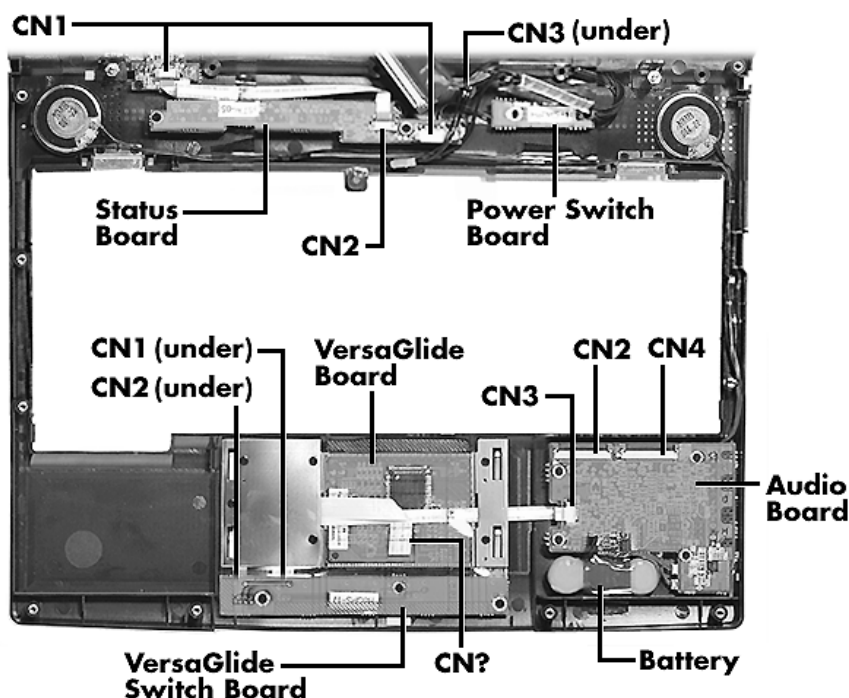

Figure 4-9 Top Cover Subassembly
13. Lift off and turn over the Top Cover Assembly. Figure 4-9 show the various components on the under side of the top cover. Table 4-2 shows connector numbers and number of screws for each of the components in the top cover subassembly.